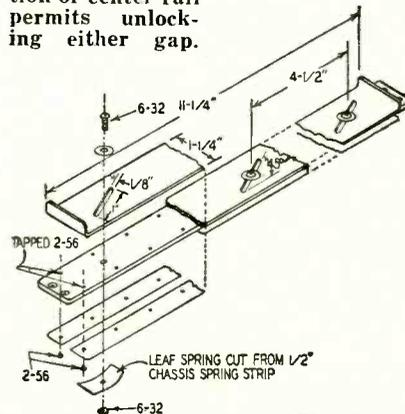

**Fig. 5—Method of clamping parts to a portion of angle iron for drilling. A scrap piece of 3/8-inch material is shown being used as a spacer.**
Components which are to be bolted together are clamped in their required positions on a piece of angle iron or a mounting fixture, as shown in Figs. 5, 6. Tapping holes are then drilled through both parts. Inserting scrap pieces of 3/8-inch material as spacers results in uniform gaps in the chassis sides; slide-in panels may be used in gaps of the chassis top.
2. Attach end supports to their corresponding cross rails, clamping and drilling at both ends as indicated in Fig. 5.